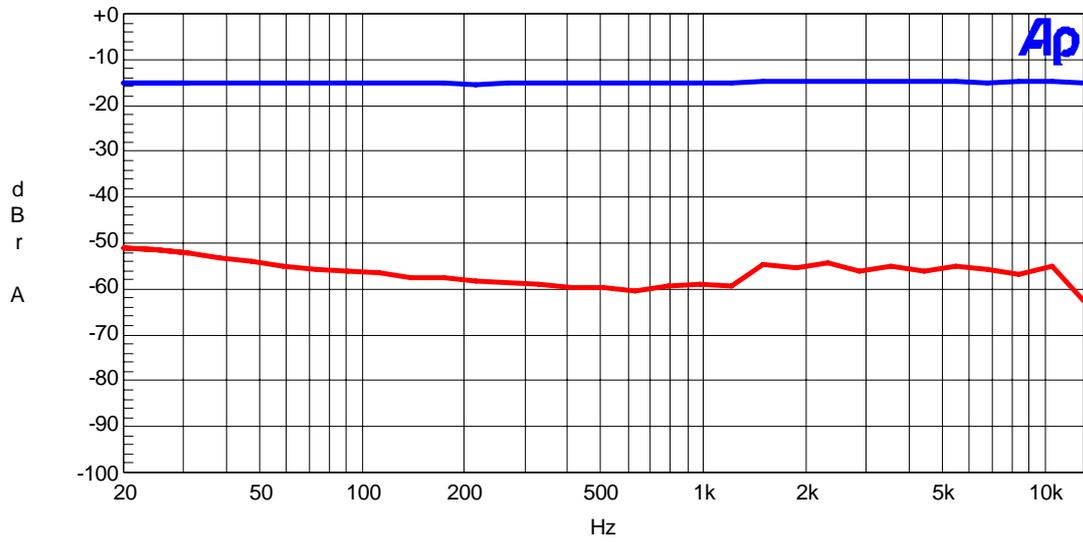

Figure. 13 Stereo Separation (Lch Off, Rch -15dB)
- Figure. 13 : Separation (Left Channel = Off, Right Channel = -15dB)